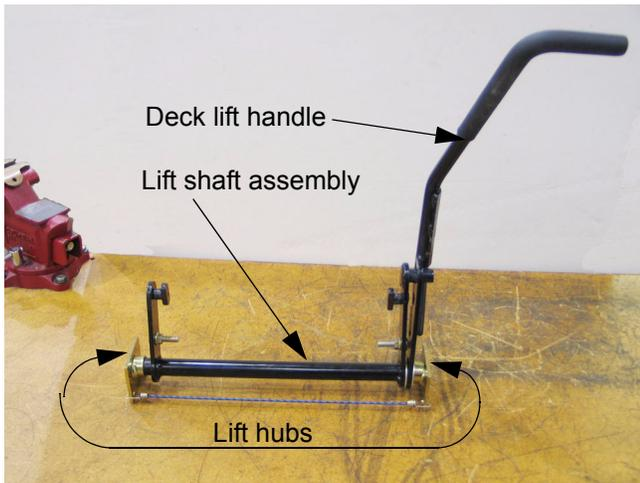

Figure 14.16
14.16. Once on the bench, the bungee cord can be removed. See Figure 14.16.